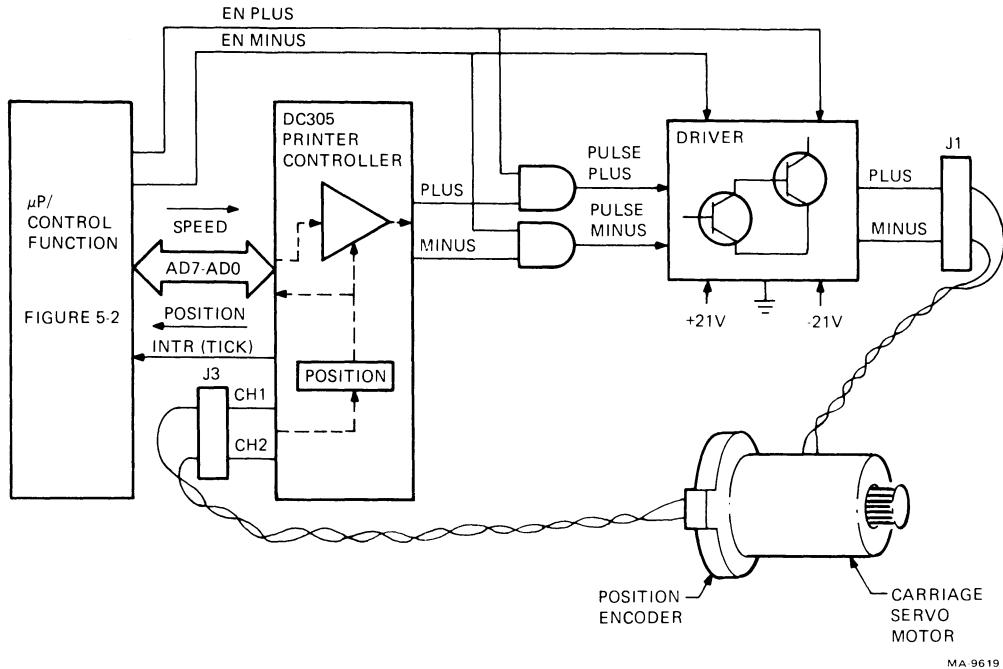

Figure 5-16 Servo/Head Positioning Logic
**5.4.4.2 Servo/Head Positioning** – The servo/head positioning logic and microcode is responsible for accelerating the printhead, maintaining its velocity during the impact printing phase, and decellerating the printhead when printing is complete. Figure 5-16 shows the logic connected with this process.